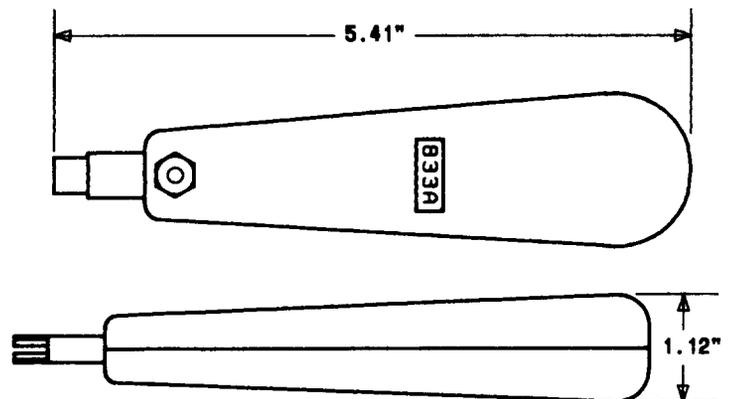

Fig. 15—833A Insertion and Cutoff Tool
2.16 **833A:** The 833A insertion and cutoff tool (Fig. 15) is used to insert and cut off 22-gauge wire on the jumper side of the 93 series connecting blocks.